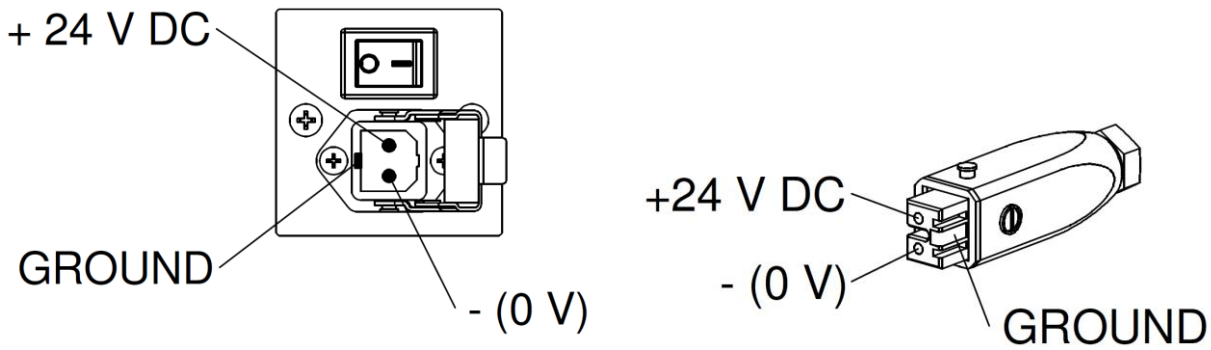

Figure 5, 24 V-input Manager IQ Easy
- Connect the 24 V DC power connector as shown in figure 5.